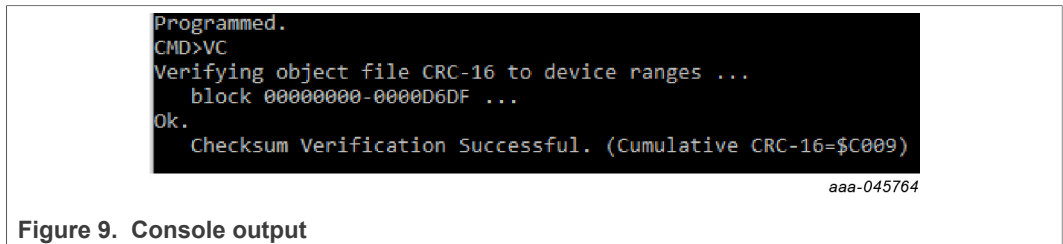

Figure 9. Console output
3. A console output displays as shown in Figure 9 indicating 'Programmed' and 'Checksum Verification Successful'.